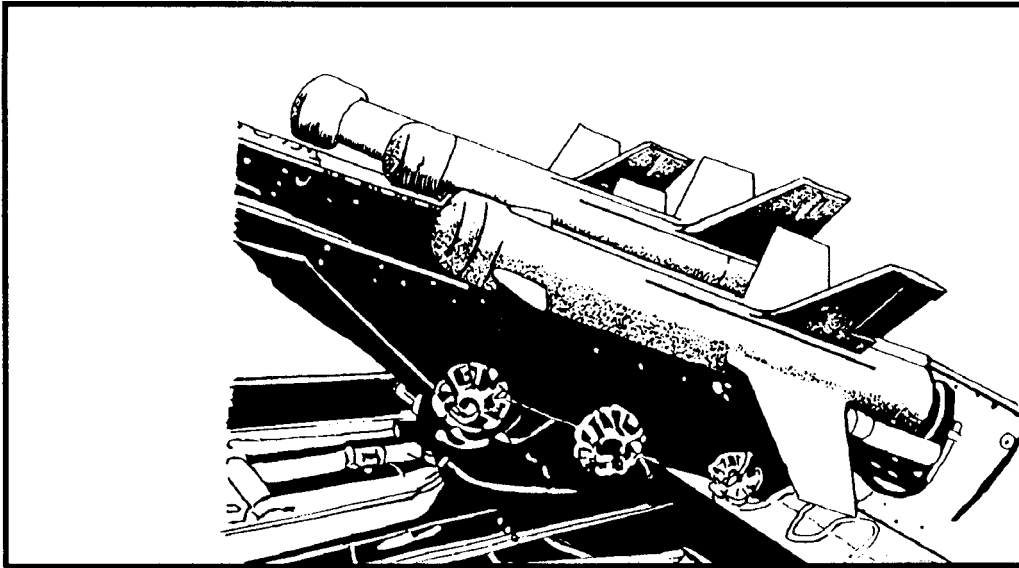
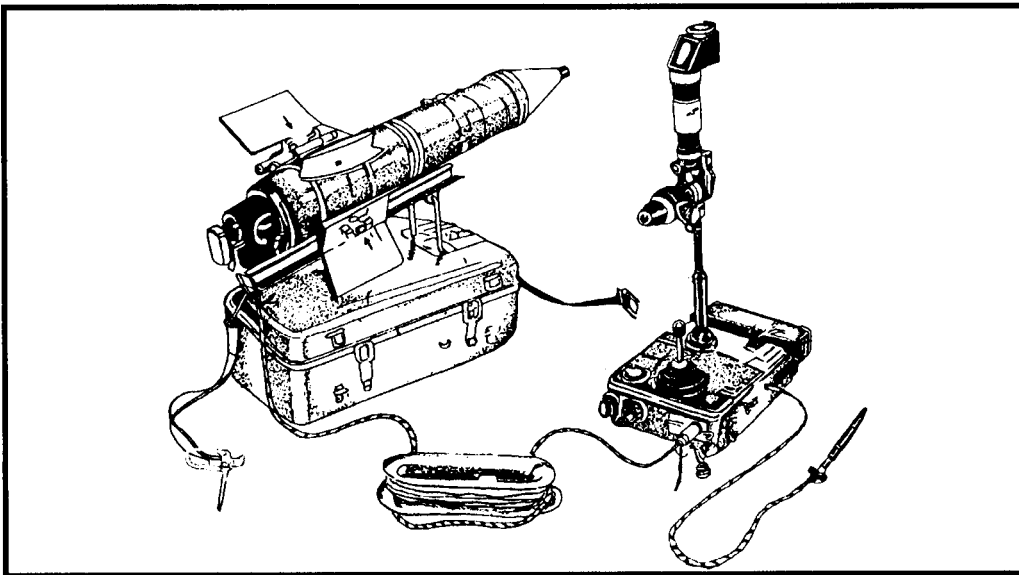

Figure F-5. AT-2 Swatter.
Figure F-6. AT-3 Sagger/manpack.
- a. **AT-2 Swatter** (Figure F-5). Three types: A, B, and C.
- Minimum range — 500 meters (A, B), Unknown (C).
- Maximum range — 2,500 meters (A), 3,500 meters (B), 4,000 meters (C).
- Guidance — MCLOS (A, B), SACLOS (C).
- b. **AT-3 Sagger** (Figure F-6).